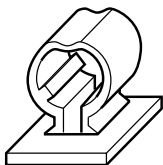
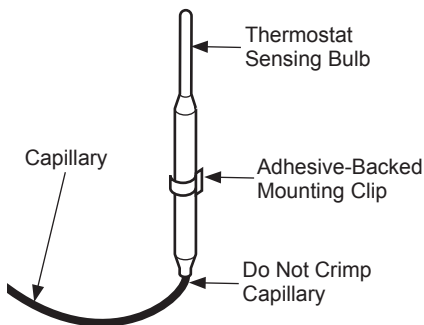

Figure 19 - Adhesive-Backed Mounting Clip
Figure 24 - Position the Thermostat Sensing Bulb in the Vertical Position With Capillary at the Bottom
4. The mounting clip must be a minimum of 3" from bottom of fireplace to prevent crimping of capillary. Once you have decided on a location, thoroughly clean the area. Remove the paper backing from the adhesive on back of mounting clip (provided with the heater in hardware package) (see Figure 19). Press the clip into the new location so that the thermostat sensing bulb will be positioned vertically with the capillary at the bottom (see Figure 24). Slide the thermostat sensing bulb into the clip.